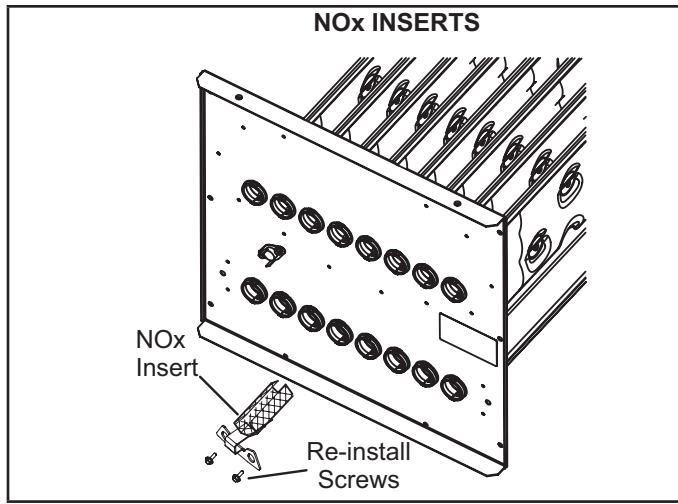

FIGURE 1
- 7 - **ML180(X), EL180(X) and 80AF1(X) NOX units being converted from natural to LP /Propane.**
- b - Remove the screw which secures each of the NOx inserts to the clamshell. **Remove the NOx inserts and reinstall the screw. See figure 1**